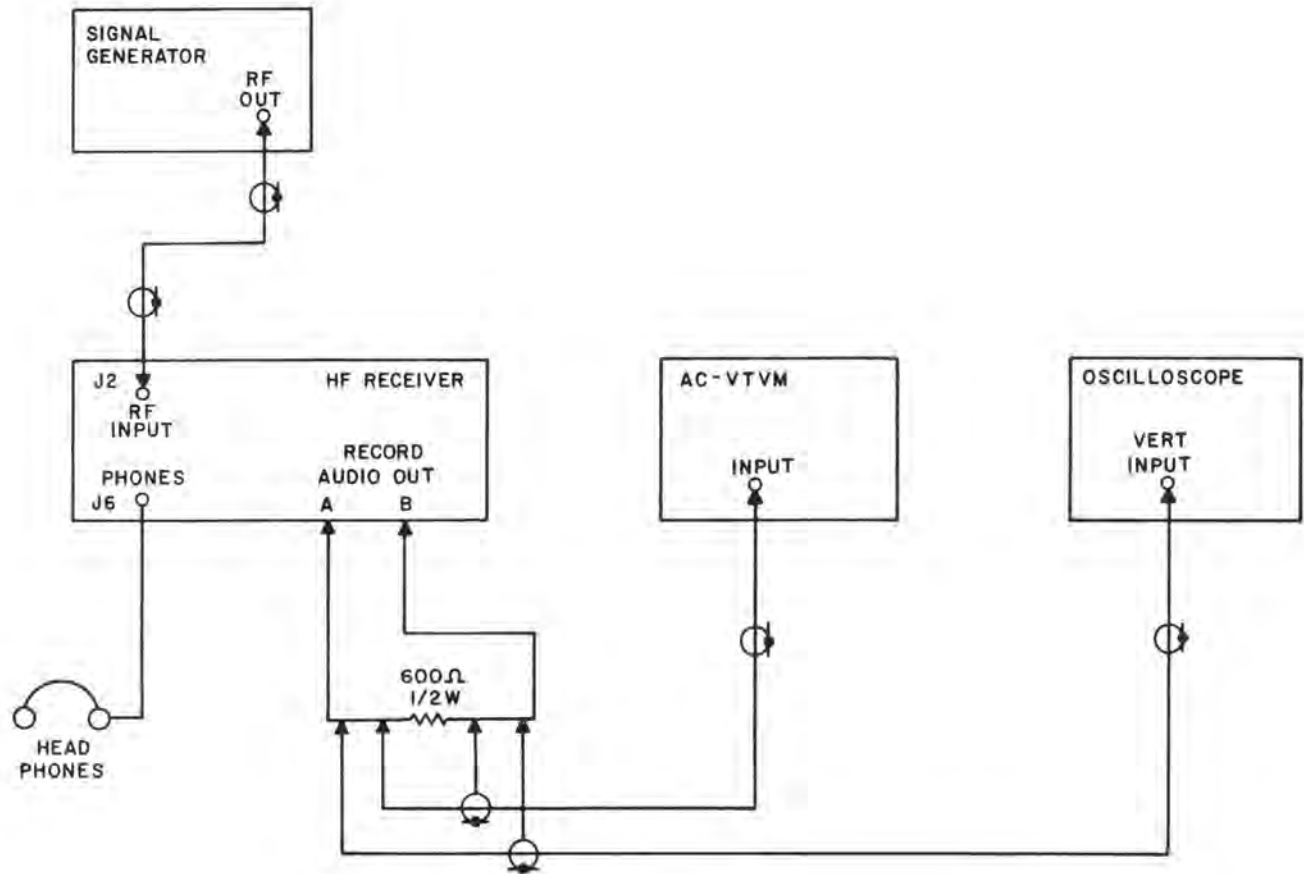

Figure 4-2. Detection Mode Performance Test
1. Connect the test equipment as shown in Figure 4-2.